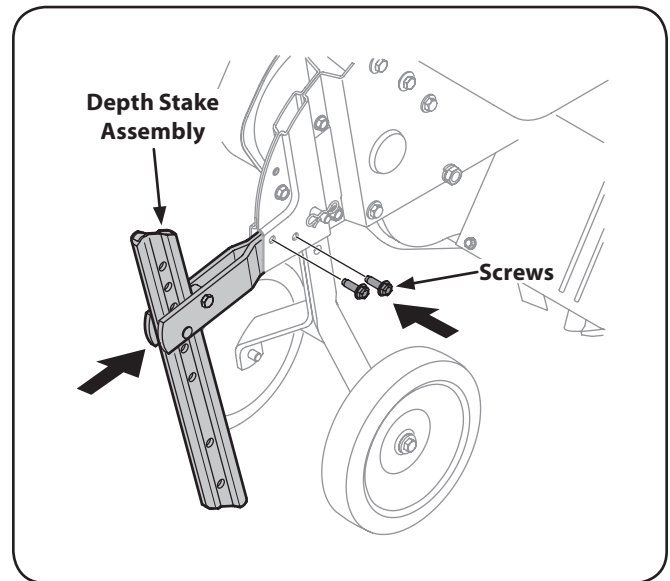

Figure 3-6
2. Insert the depth stake assembly into the frame and reinstall the two screws removed earlier. Tighten the hex bolts securely. See Figure 3-6.